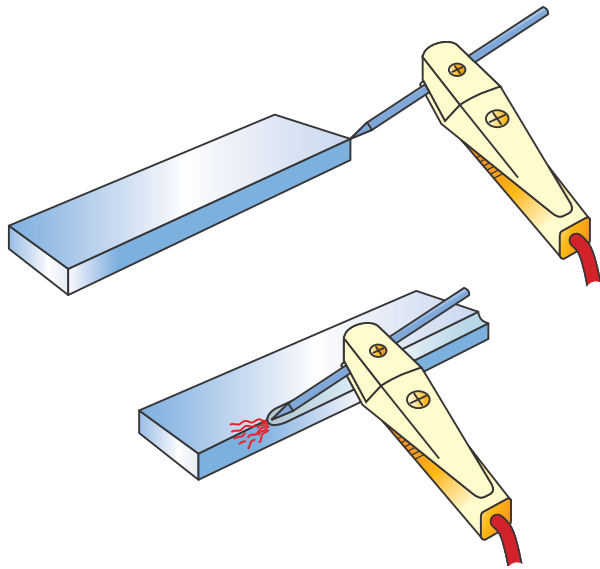

FIGURE 23-35 Air carbon arc J-grooving.
8. Slowly bring the electrode down at about a 30° angle so it will make contact with the plate near the starting edge, Figure 23-35.